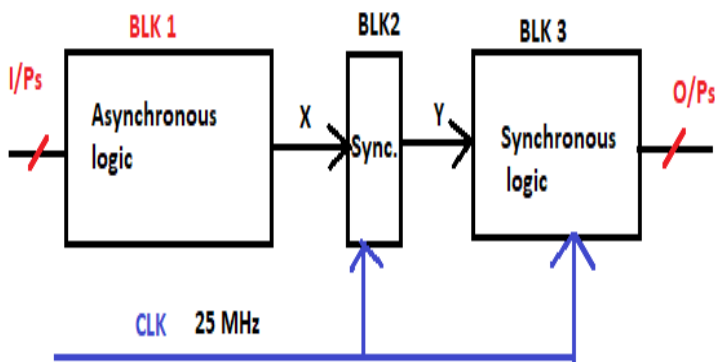
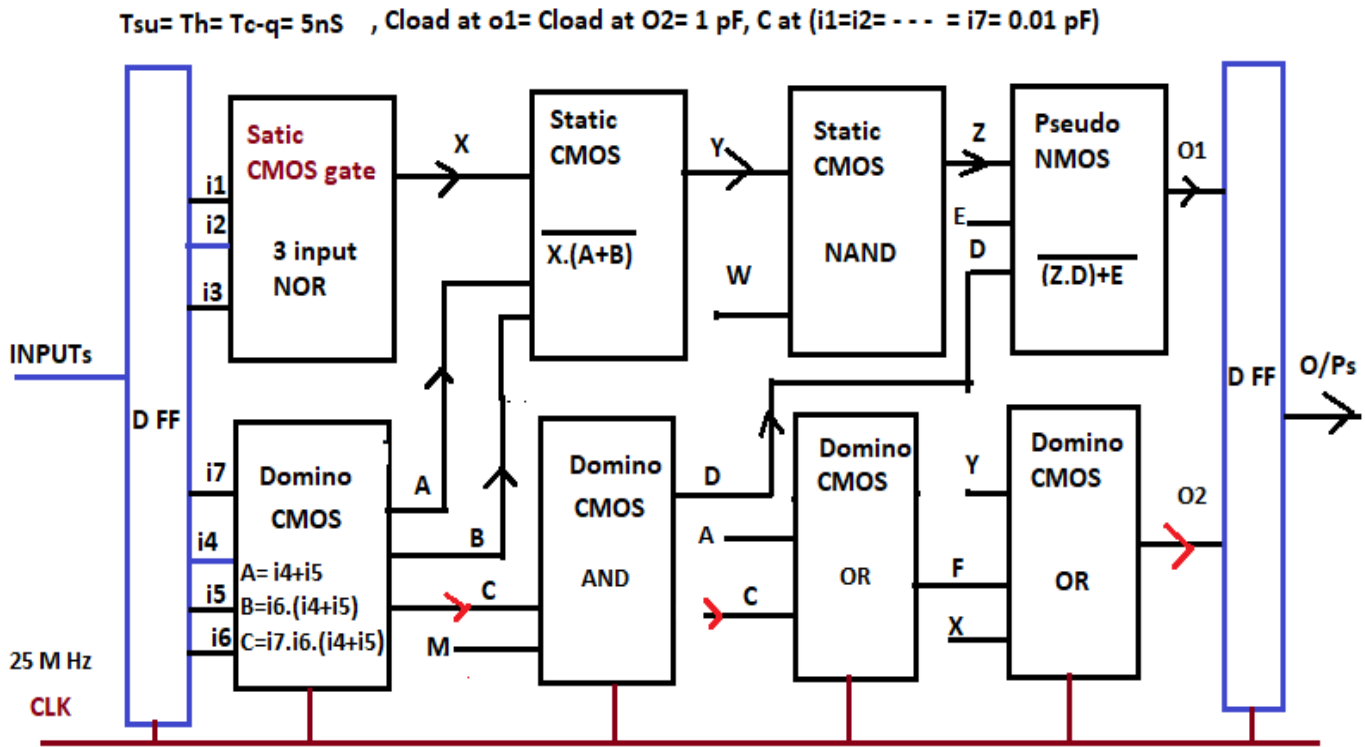

Fig. 1
FIG. 3
Q1. Consider Fig. 1. . Given signal rise time $t_{\text{rise}} = 20\text{ ns}$
Q2. For BLK-1 in Fig. 1-- the synchronous logic design of BLK 1 is shown in Fig. 3. Assume $1 C_g = W_{min} L_{min} C_{ox}$
- In Fig 3, determine optimum number of stages for data path consisting of only static cmos gates..